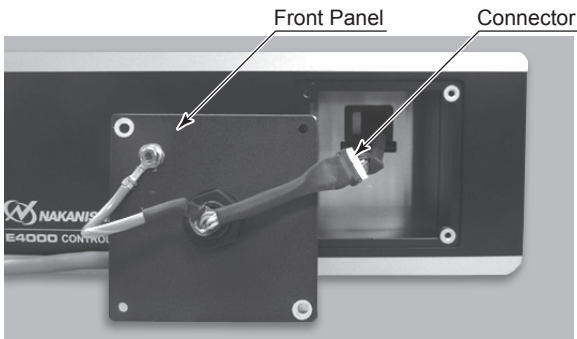

Fig. 5
- ③ Connect the connector of the Front Panel of the Control Panel Extension Cord to the connector of the CONTROLLER (Fig. 5).